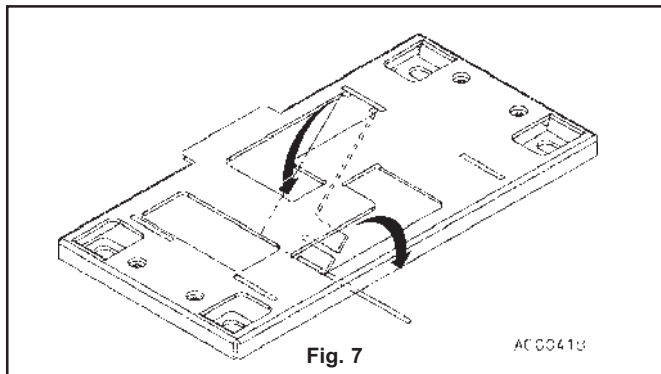

Fig. 7
e) Fold the two anchorage "L"-shaped pieces in the base plate downwards through 90° (fig. 7) and plug the threaded holes to prevent them filling with debris.